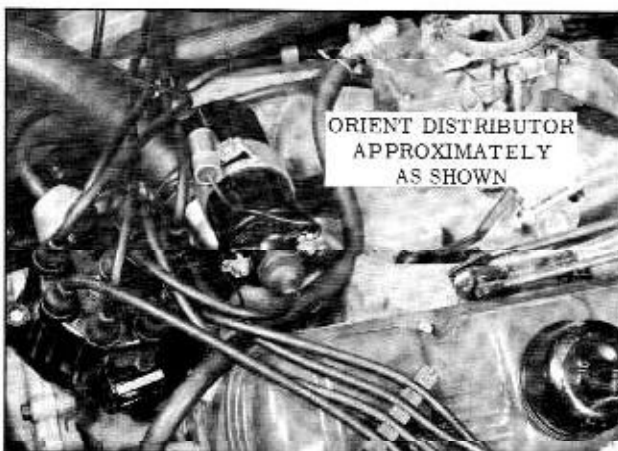

Fig. 13-68 Distributor Installation
2. Install the distributor with the vacuum advance positioned to the right of the engine as shown in Fig. 13-68.